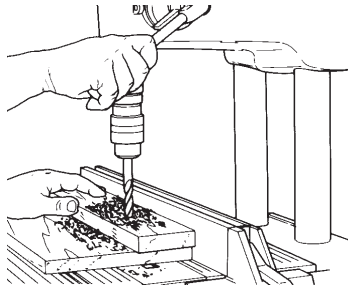

Figure C-25
6. Turn on the Mark V, adjust the speed, and feed the drill bit into the stock slowly. See Figure C-25. When drilling deep holes, retract the drill bit now and then to clear chips from